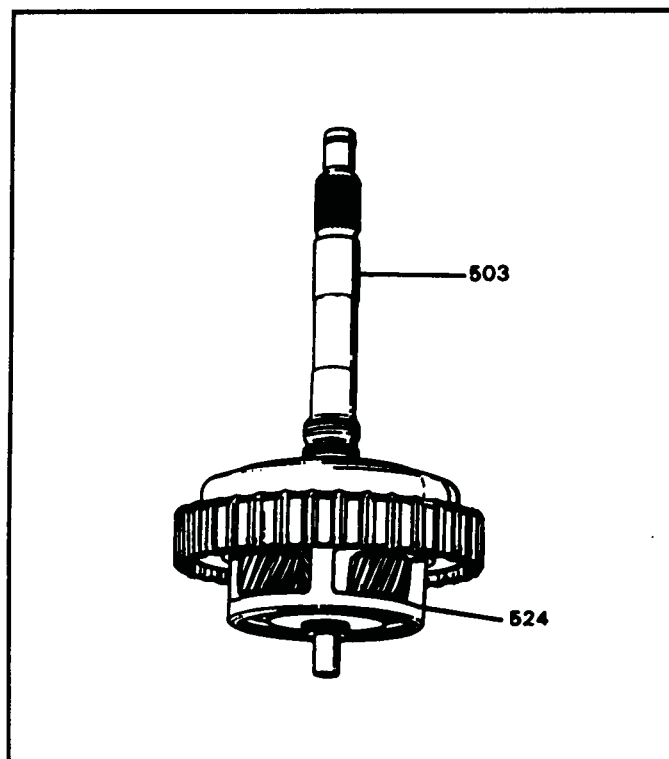

Figure 125
35. Grasp the turbine shaft and install completed overdrive gear train assembly into ring gear by rotating down into position (See Figure 125).